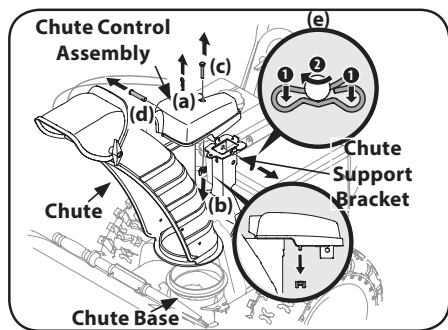

Figure 2-23
1. Remove cotter pin (a), wing nut (b) and hex screw (c) from chute control assembly. Remove clevis pin (d) and bow-tie cotter pin (e) from chute support bracket. See Figure 2-23.